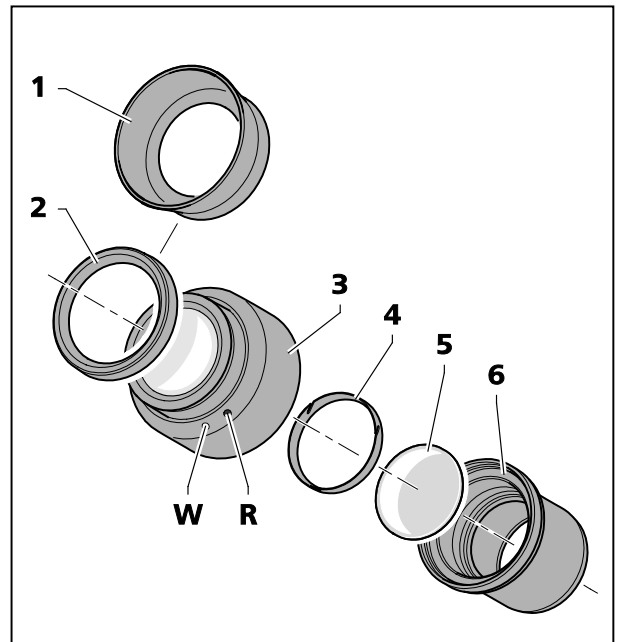

Fig. 11 Inserting the eyepiece plate
The eyepieces feature rubber protection rings for spectacles to avoid the spectacles being scratched. These rings may be replaced at choice by reversible eye cups (Fig. 11/1).
- To this effect remove the protection rings for spectacles (Fig. 11/2) from the eyepieces and position the eye cups (Fig. 11/1).
- Unscrew stop (Fig. 11/6) from the eyepiece (Fig. 11/3).
- Pull locking ring (Fig. 11/5) out.
- Insert eyepiece plate (Fig. 11/4).
The slight image offset which is due to the additional glass distance is taken into account on the diopter scale by the zero position not being indicated by the white dot (Fig. 11/W), but by a red dot (Fig. 11/R).